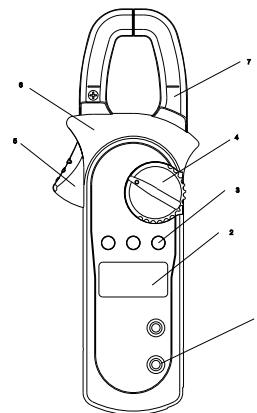

Figure 1
V.Appearance Structure (shown in Figure 1)